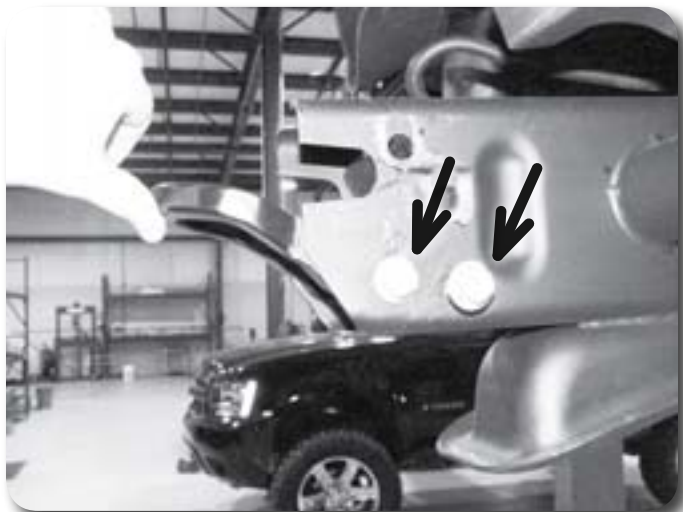

Figure 20
42. Install the tow hooks in the frame so that they are flipped over from how they were removed (the mark made earlier is now facing down). Install the hooks to the frame using the original front holes and one new back hole with the factory hardware **Figure 20**. The hooks will now angle up slightly as they go toward the front to clear the relocated front bumper. Torque the tow hook bolts to 65 ft-lbs.